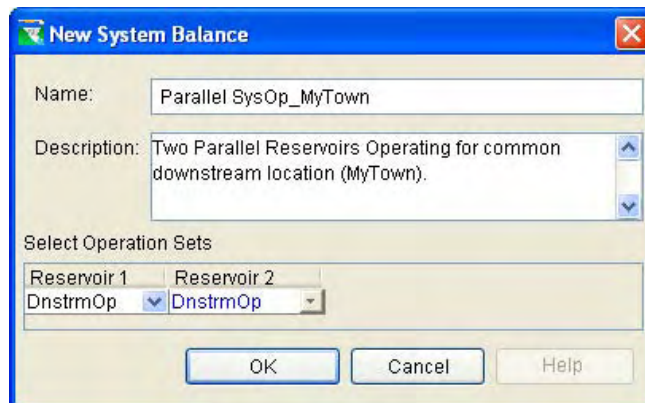

Figure 12.17 New System Storage Balance for Reservoir System
1. Select **New** from the **SystemBalance** menu of the **Reservoir System Editor**. The **New System Balance** dialog box will open (Figure 12.17).